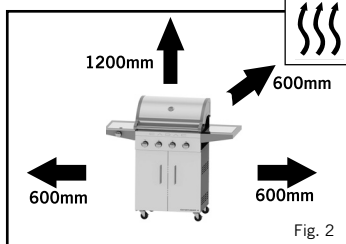

Fig. 2
- Ensure the appliance is used away from flammable materials. Minimum safe distances are 1.2m above the appliance and 600mm to the rear and sides of the appliance (see fig. 2).